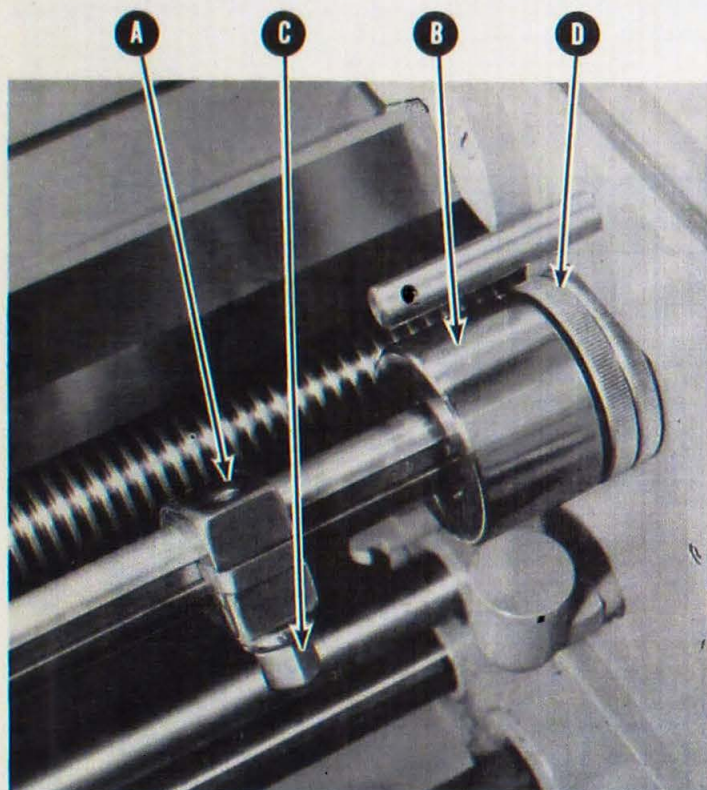

FIGURE 7
Figure 7 shows the automatic length stop and adjusting collar at the left hand side of the apron. This stop is a time saver not only when chasing threads but also for ordinary turning operations. A similar stop on the right hand end of the leadscrew reverse control rod provides an automatic stop with the carriage moving toward the tailstock. To set stop (A), position the threading or turning tool to the required point on the work; then with the leadscrew reverse lever in neutral position, place stop (A) against adjusting collar (B) and tighten stud (C). Collar (B) is for the final close adjustment and is locked in place with nut (D).